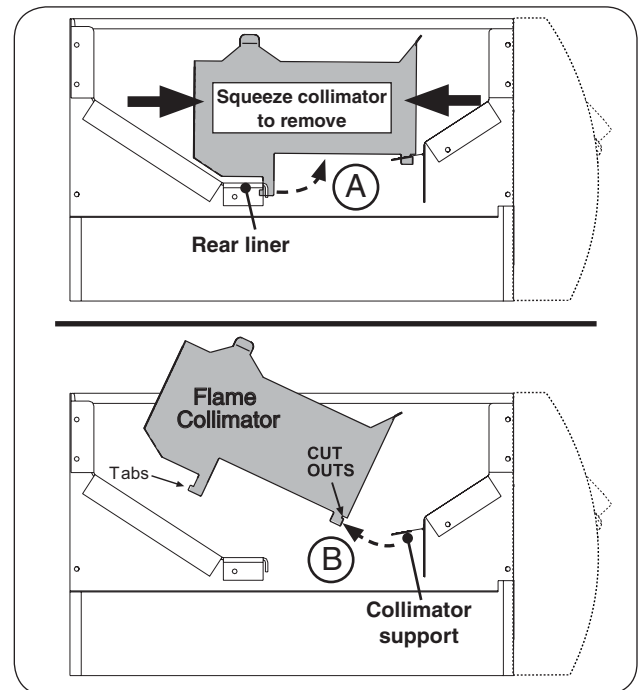

Fig. 34-2 Flame collimator removal
2. Squeeze the collimator to detach the rear tab from the rear liner as shown in Fig. 34-2, A, and lift up the rear portion of the collimator.
3. Detach the collimator from the front collimator support and completely remove the collimator as shown in Fig. 34-2, B.